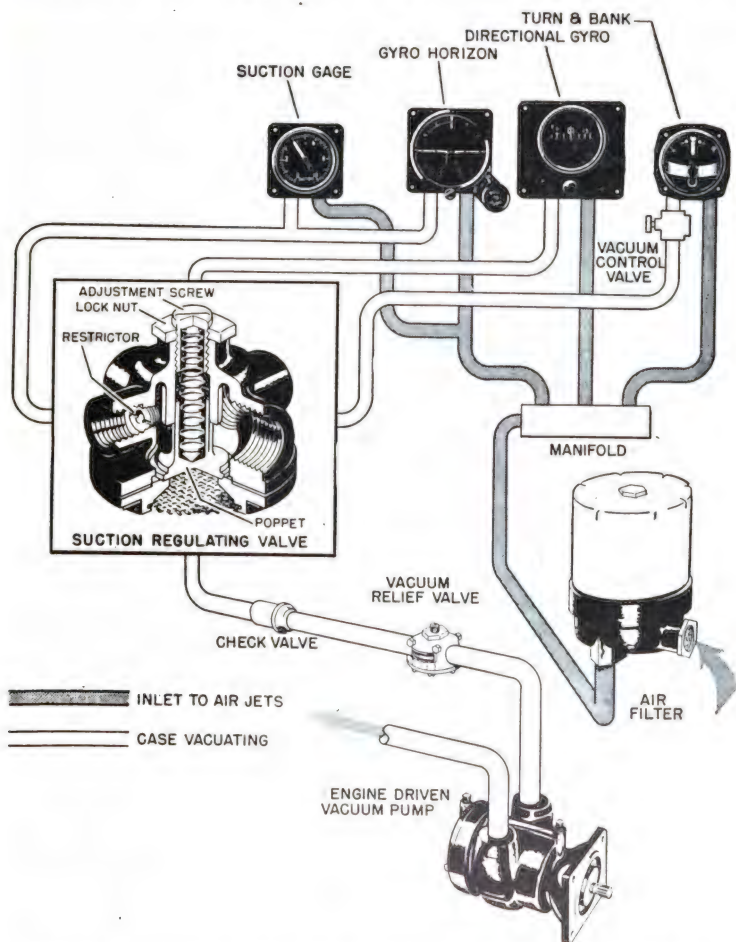

Figure 77.—Vacuum system showing cutaway of suction regulating valve.
and later replaced the venturi tube. Figure 77 illustrates the vacuum pump method of instrument operation and shows the suction gage used to indicate the amount of suction provided for gyro instruments. An engine-driven vacuum pump would provide a better, more stable, and reliable source of vacuum. However in modern aircraft, these gyro driven instruments are being operated by an electric source. An electric-driven gyro rotor is used that is quite suitable for high altitude flying as compared to the air-driven gyro rotor which at high altitudes may encounter inadequate air supply because of low atmospheric pressure.
The main part of a bank indicator is a glass ball which moves in a curved glass tube filled with liquid. The tube is mounted horizontally across the front of the instrument dial, a little below the center, as you see in figure 77. The liquid in the tube is for the purpose of damping the movement of the glass ball. The movement of the glass ball is controlled by two forces—(1) gravitational pull of the earth, or gravity, and (2) centrifugal force caused by the turning of the aircraft. When the airplane is making a properly banked turn, the ball stays in its center position because of the proper balance of these forces. If the ball moves in the direction of the turn (low side of the tube), it indicates that the aircraft is slipping toward the inside of the turn as a result of overbanking. Therefore, the force of gravity controls the movement of the ball.